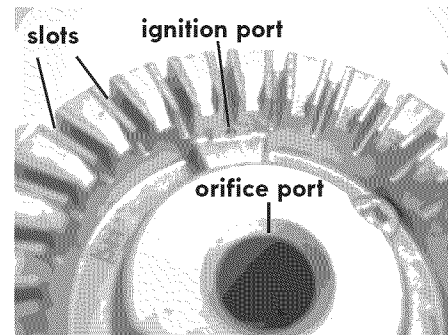

Fig. 1 - Cooktop burner head
Each burner head has a small ignition port located as shown. Should you experience ignition problems it may be that this port hole is partially blocked with soil. With the burner head in place, use a small wire gauge needle or the end of a paper clip to clear the ignition port (See Fig. 1; round style shown; oval burner on some models not shown).
1. Open oven door completely (horizontal with floor - See Fig. 1).